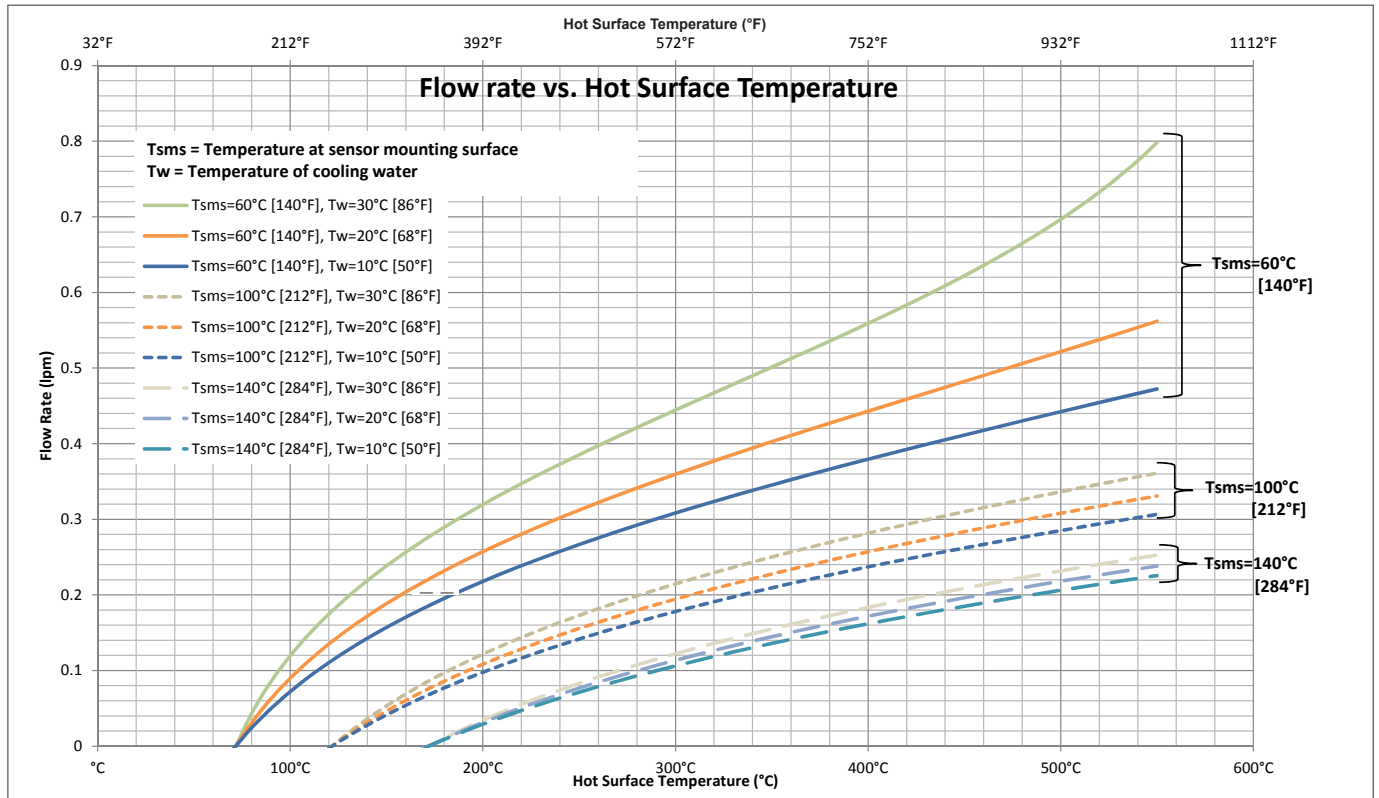

Fig. 5: Minimum flow rate recommendations depending on the expected temperature at the water-cooled mounting adaptor base
**Figure 5 can be used to determine:**
- (1) The flow rate needed for a given cooling water temperature and hot surface temperature.
- (2) The cooling water temperature needed for a given flow rate and hot surface temperature.
- (3) The maximum hot surface temperature allowed for a given flow rate and cooling water temperature.